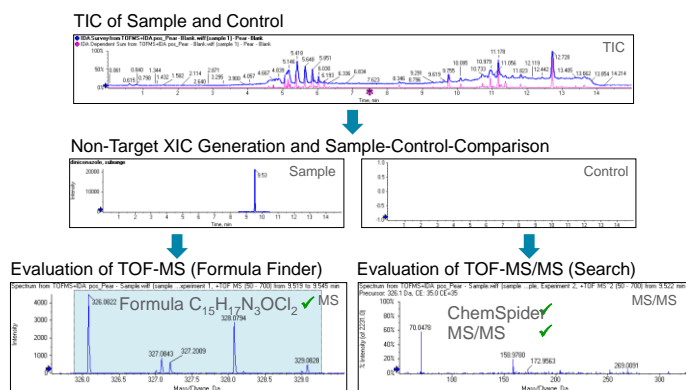

Figure 2. Automatic Non-targeted (Unknown) Screening Workflow
- XICs of all found compounds in the two samples selected are displayed in the chromatogram pane (Figure 2 top).